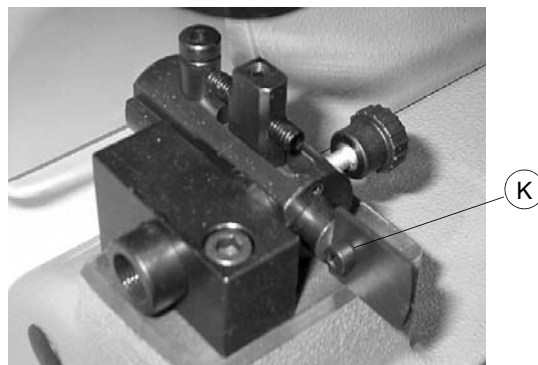

Fig. 17
To replace the tracer point (N), proceed as follows (fig.17):